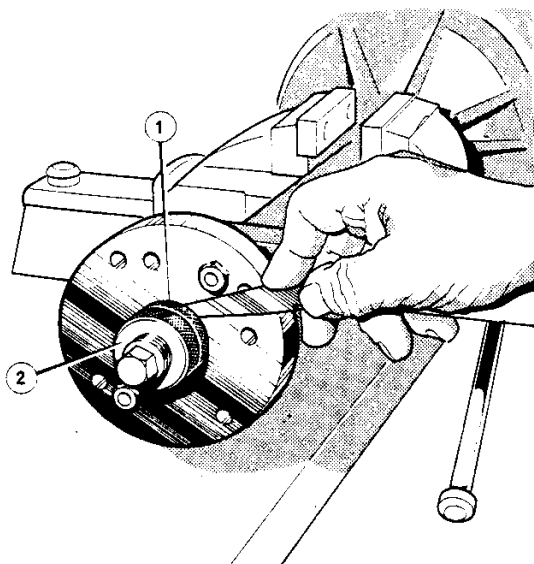

Figure 10 Determining overall differential end float using gauging tool
5. Unscrew the right-hand side push rod approximately 3.2 mm (1/8 in). Screw in the left-hand push rod with a load of 2-4 lb/ft maximum, thus pushing the differential assembly over in to the right-hand housing. Screw up the gauging nut lightly to the face of the circular plate. Carefully screw the locking nut up to the gauging nut and screw the push rod back approximately 3.2 mm (1/8 in), ensuring the gauge nuts move with the screw as they come away from the plate. Screw in the right-hand push rod 2-4 lb/ft maximum, thus pushing the differential unit in to the left-hand axle housing. Screw in the left-hand push rod until a stop is felt. Measure the gap between the circular plate and the gauge nut with a feeler gauge and record the figure (Figure 10) which will represent the overall end float.